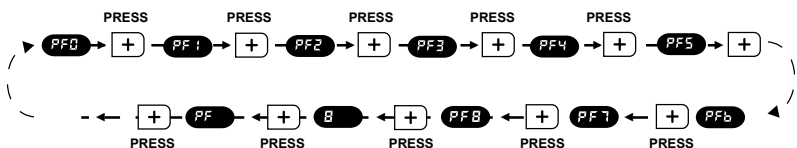

Figure 2
- C. Press the **Warmer** (+) or **Cooler** (-) button to scroll through the cycles, PF0 to PF8, Figure 2.